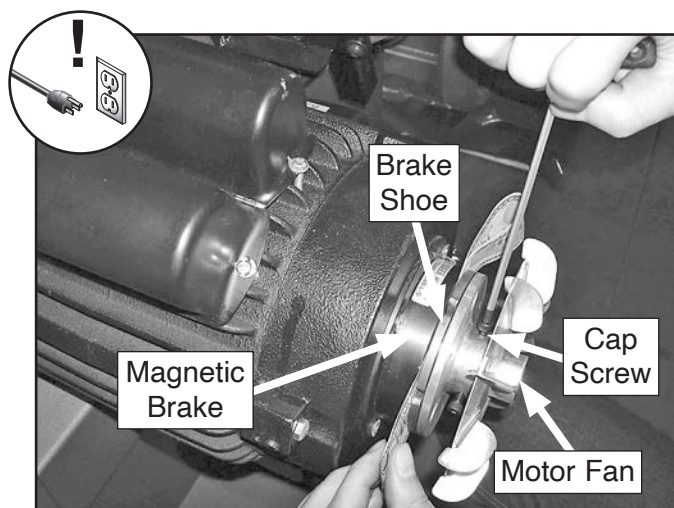

Figure 7. Adjusting distance between magnetic brake and brake shoe.
2. Remove motor fan cover, then loosen cap screws securing motor fan and brake shoe (see **Figure 7**).
3. Fold two dollar bills in half and slide them (or feeler gauges) between brake shoe and magnetic brake on both sides (see **Figure 7**).